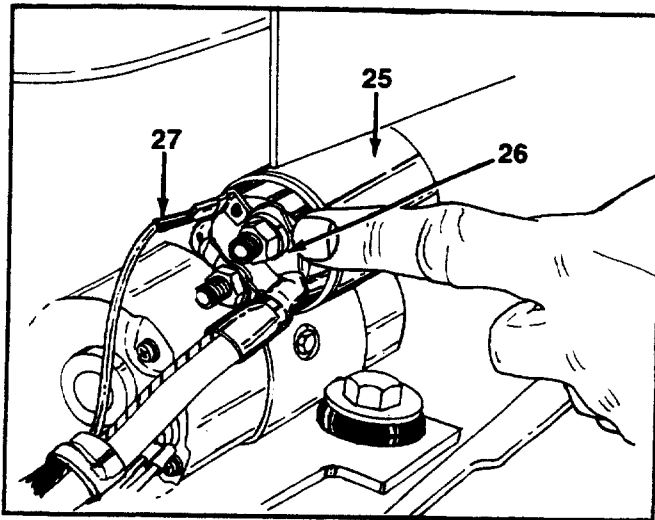

FIGURE 14.
17. Disconnect positive cable from starter solenoid terminal, located on the right hand side of tractor. Disconnect switch spade from solenoid terminal. See figure 14.